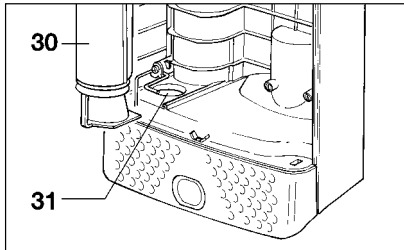

Figure 8
Changing the Micro-Hygiene Filter - Figure 8
3. Microfilter not properly inserted.	3. Lift safety lever and insert filter with vertical plastic ridge on filter facing you (see pg. 8, figure 8).